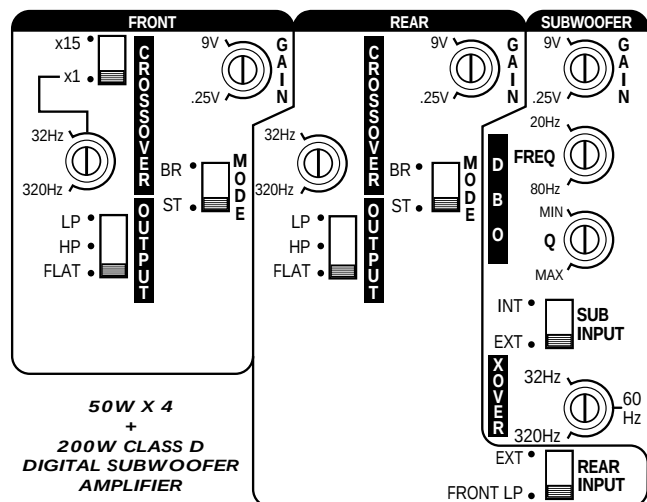

Figure 7. Kappa 255a controls for crossover, input, output, and DBO (Dynamic Bass Optimizer).
8. Connect RCA cables from a source unit to the L/R, FRONT/REAR INPUT jacks. If the source unit has subwoofer outputs, also connect a pair of RCA cables from those jacks to the SUB INPUT jacks and set the SUB INPUT switch to EXT (see Figure 7).
1. To use the Kappa 255a in a front/rear system, set the CROSSOVER controls to frequencies recommended by the speaker manufacturer (see Figure 7). If the value is unknown, set the control midway.
Initially, turn the front and rear input sensitivity GAIN controls to their minimum (counter-clockwise) positions (refer to Figure 7).